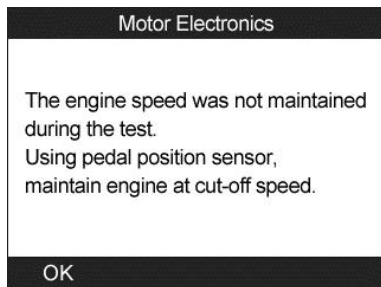

Figure 13.45
- If the engine is not running at cut-off speed, the tool will display a warning message. (Figure 13.45) Select **OK** to repeat the test.